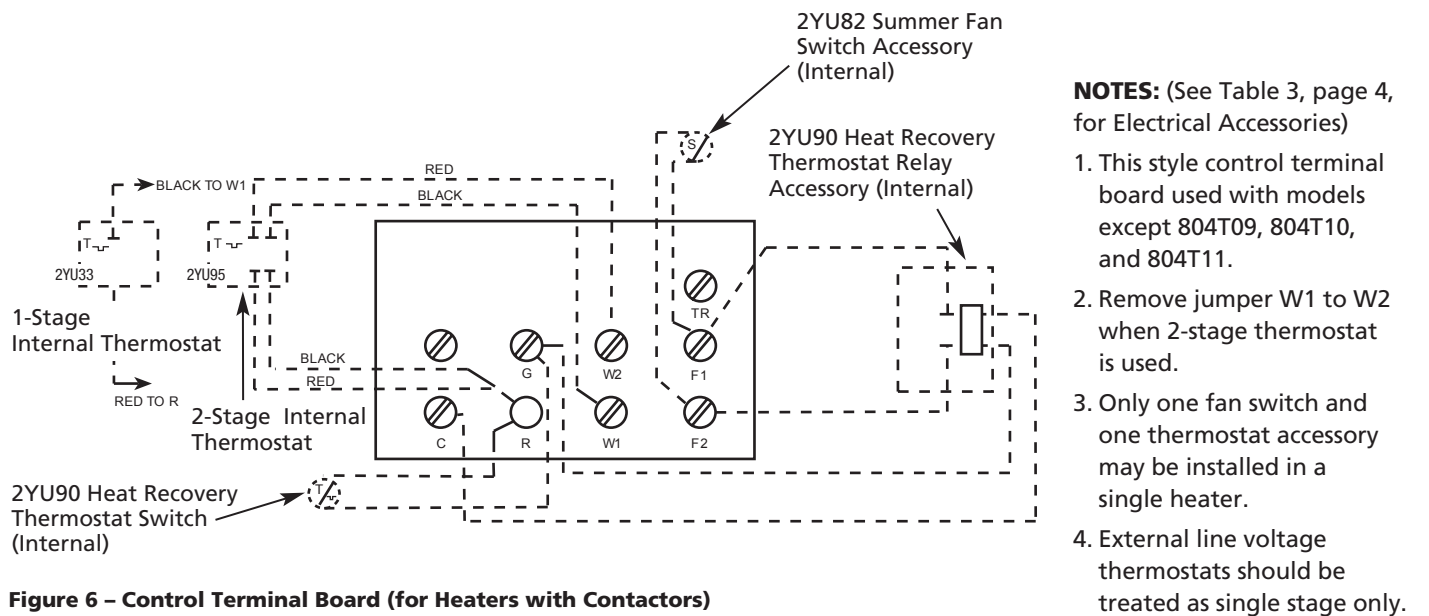

Figure 6 – Control Terminal Board (for Heaters with Contactors)
4. On units provided with internal contactor (units rated 5 kW and higher) refer to Figure 6, page 8, for wiring diagram. Control wiring must be rated minimum 18 AWG.